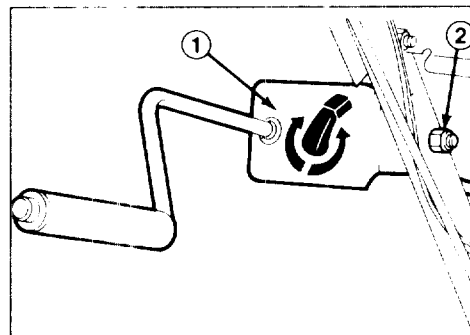

Figure 10
1. Assemble chute control bracket and rod to left side of handle with capscrew and locknut. Leave locknut loose until assembly is completely mounted (Fig. 10).
4. Tighten the locknut securing chute control bracket against left handle (Fig. 10).